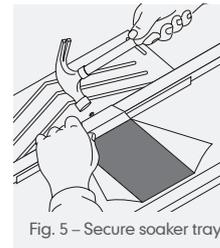

Fig. 5 – Secure soaker tray
- 4 Secure soaker tray by folding cut underlay over the batten and nail into the top edge of the tiling batten above (Fig. 5).